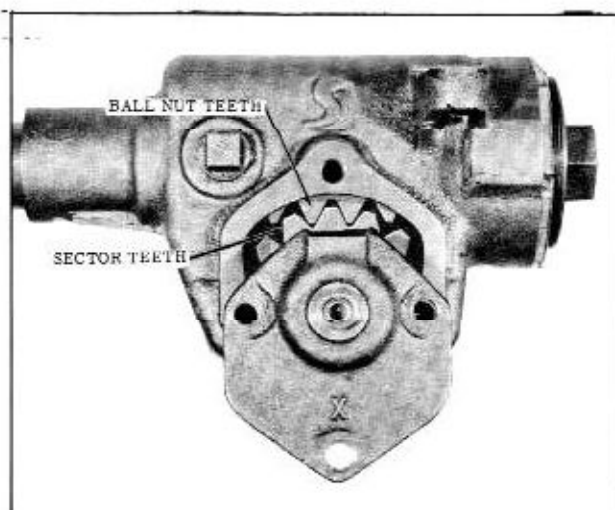

Fig. 4-17 Sector and Ball Nut Centered
3. Install pitman shaft and side cover assembly and gasket, with sector and ball nut teeth centered as shown in Fig. 4-17. Torque side cover bolts 20 to 22 ft. lbs.